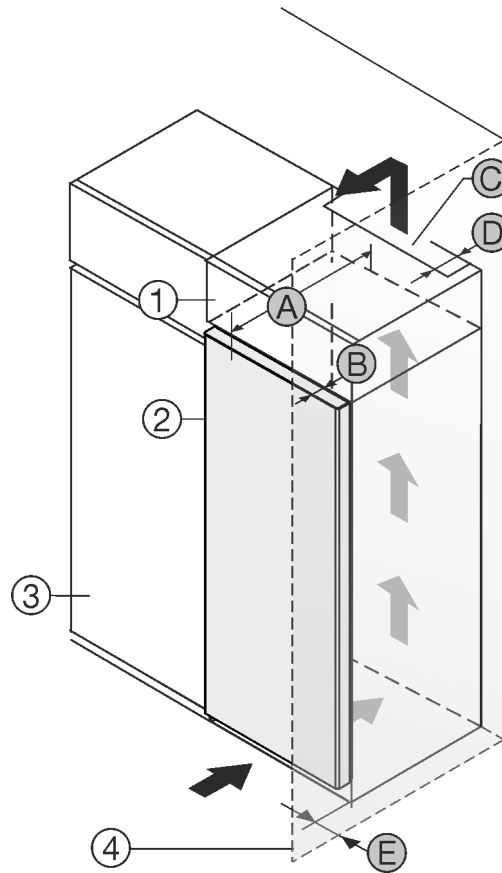

Fig. 1
- (1) Top cupboard *
- (2) Appliance *
- (3) Kitchen cabinet *
- (4) Wall *
- (A) Appliance depth *
- (B) Door depth *
- (C) Ventilation cross-section *
- (D) Distance to the rear of the appliance *
- (E) Distance to the side of the appliance *
You can place the appliance directly beside the kitchen cabinet Fig. 1 (3).
There must be a ventilation shaft at the depth Fig. 1 (D) of the back of the top cupboard over the entire width of the top cupboard.*
The cross section of the ventilation gap Fig. 1 (C) must be maintained below the ceiling.*
If the appliance is set up with the hinges next to a wall Fig. 1 (4), the distance between the appliance and the wall must be at least 13 mm.*
If the appliance is set up with the hinges next to a wall Fig. 1 (4), the distance between the appliance and the wall must be at least 20 mm.*
In order to be able to fully open the door, the appliance must protrude by the depth of the door Fig. 1 (B) from the front of the kitchen cabinet. Regardless of the depth of the kitchen cabinets Fig. 1 (3) and use of wall spaces, the appliance can protrude further.*